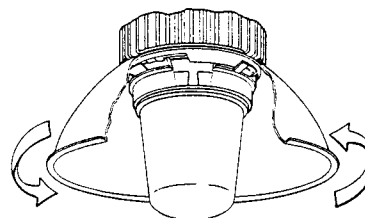

FIGURE 6
5. The reflector can be removed by rotating counterclockwise until the three reflector tabs are free of the captivating bosses. See figure 6